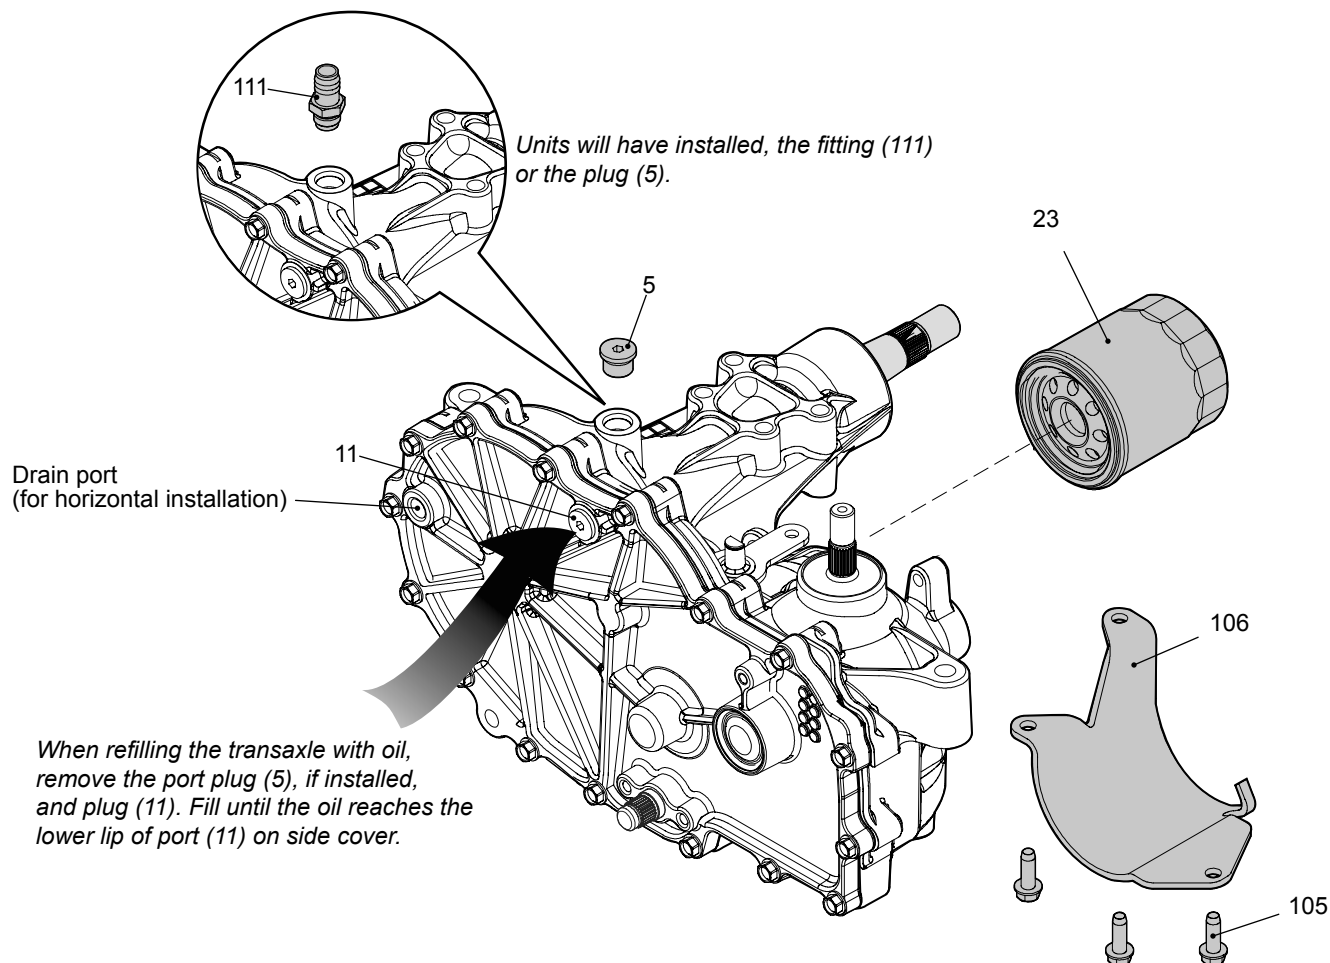

Figure 4, Filter and Guard
Refer to Figure 4
1. Remove the three 1/4" filter guard screws and filter guard. Clean any loose debris from around the perimeter of the filter. See figures 4 and 5.